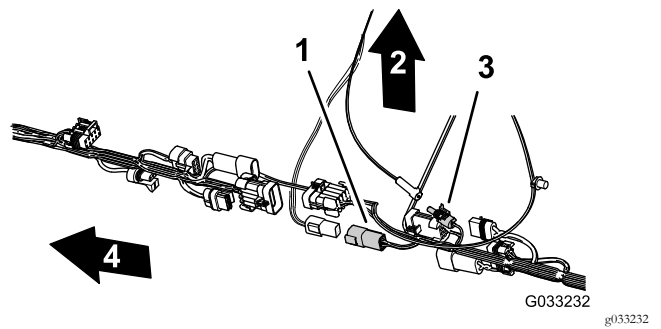

Figure 120
7. To ease connecting the navigation electrical and data harnesses, ensure that the 1-socket connector of the rear wire harness and the 4-socket connector of the rear wire harness are aligned to the top of the harness (Figure 120).